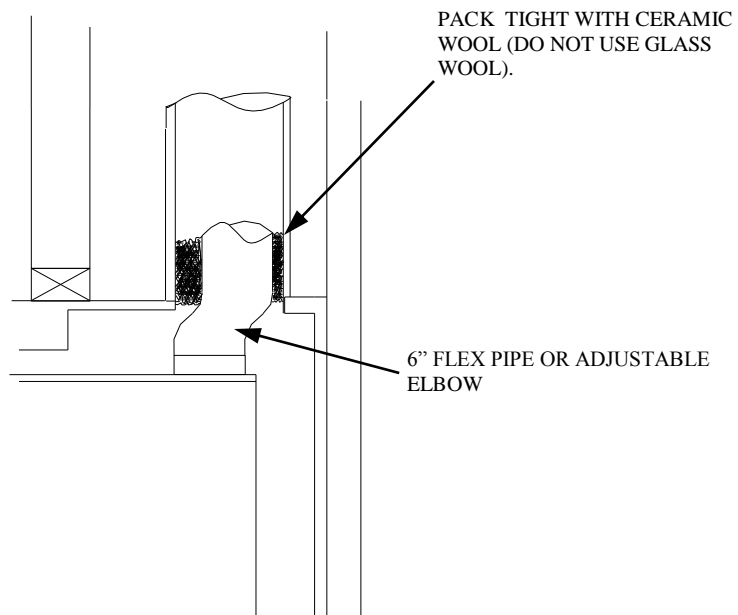

FIGURE 3
1. The second method is to use a 6” stainless steel connector (rigid or flex) and a ceramic blanket (available from your dealer). (See Figure 3).